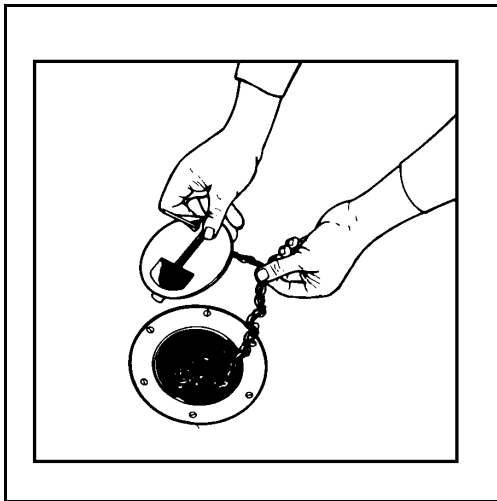

Figure 17-1. Access Plate
- **Step 1.** Remove the access plate from the deck over the rudder stock (Figure 17-1). There are two separate access plates. One is located on the starboard side and one is located on the port side just aft of the pilothouse. Either one can be used. The protective deck plate installed over the top of the rudder post should be loosened before all landing exercises so that the emergency tiller may be readily installed if necessary.